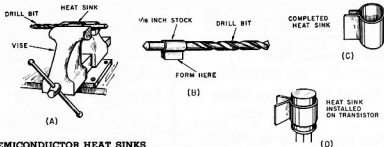

Fig. 4.—Steps used by W1CER in constructing heat sinks for small transistors.
Heat sinks for smaller transistors can be fabricated as shown in Fig. 4. Select a drill bit that is one size smaller than the diameter of the transistor case and form the heat sink from 1/16 inch thick brass, copper or aluminum stock as shown in steps A, B and C. "Warp" the stock around the drill bit by compressing it in a vise (A). The completed heat sink is pressed into the body of the semiconductor as illustrated at D. The larger the area of the heat sink, the greater will be the amount of heat conducted away from the transistor body. In some applications, the heat sinks shown in Fig. 4 may be two or three inches in height (power transistor stages).